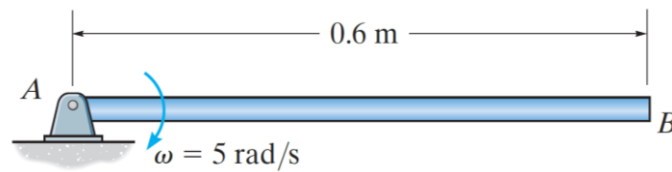

Figure 4(a)
- (b) Figure 4(b) shows, the 30-kg reel is mounted on the 20-kg cart. If the cable wrapped around the inner hub of the reel is subjected to a force of  $P = 50 \text{ N}$ , determine the velocity of the cart and the angular velocity of the reel when  $t = 4 \text{ s}$ . The radius of gyration of the reel about its center of mass  $O$  is  $k_o = 250 \text{ mm}$ . Neglect the size of the small wheels.